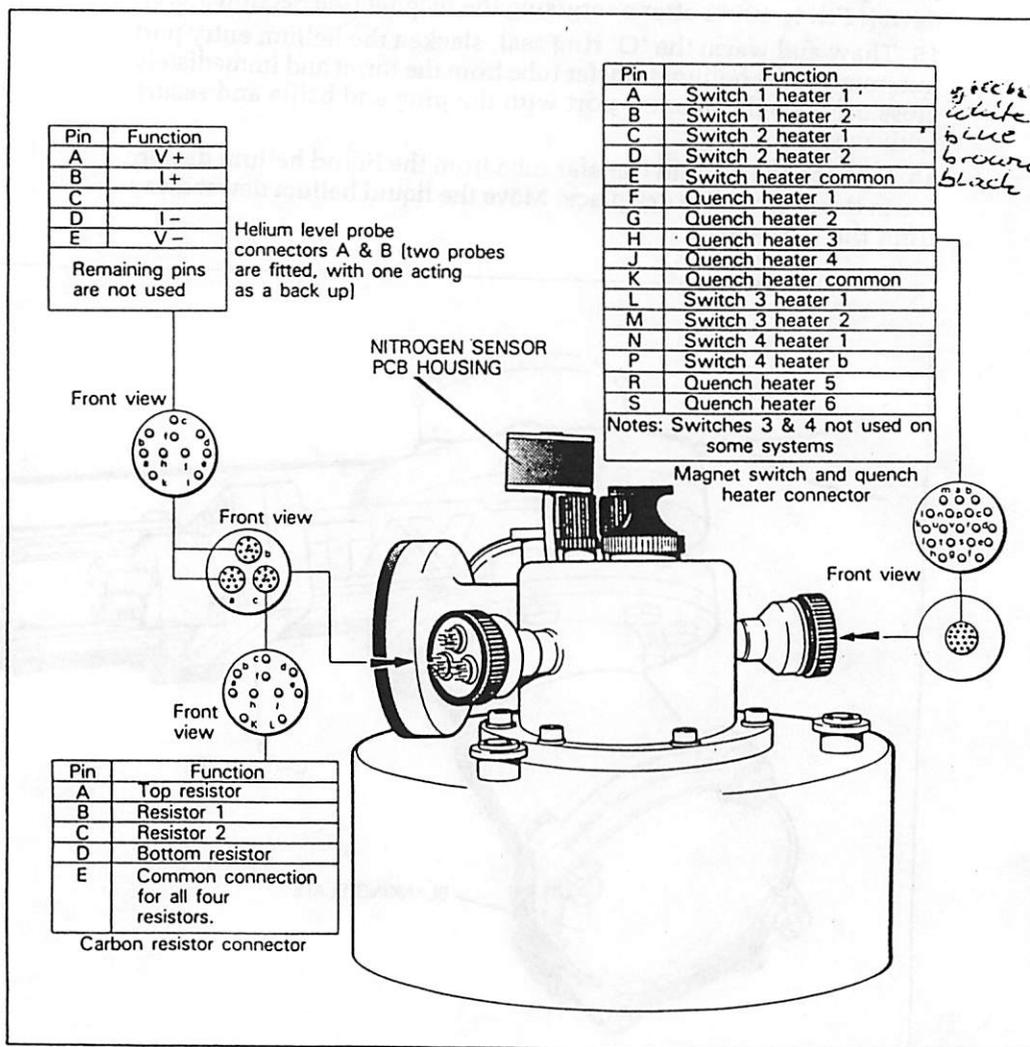

Figure 4.12
- 4 Check the electrical continuity of the demountable current lead at the services turret. Check the electrical connections of the switch heaters, nitrogen probe, helium probe and quench heaters (see Fig. 4.12).